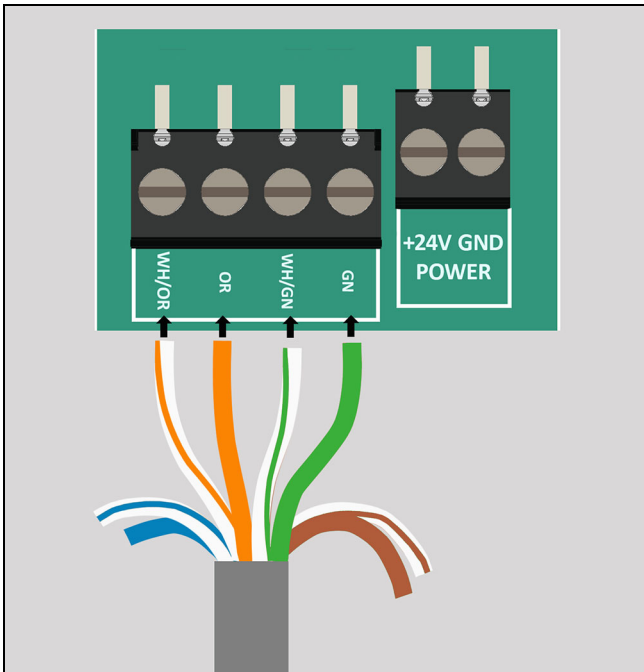

Figure 7
1. If connecting the windows to Ethernet or WiFi, network security settings may prevent connection to the Marvin cloud. Under higher security settings port 8883 may be blocked and would prevent the connection so router settings would need to change to allow the connection. Due to space constraints, the controller must be wired to Ethernet by stripping 2 of the pairs in the Ethernet cable and terminating them under the screw terminals. Assuming the network follows the T568B standard, wire the white/orange, orange, white/green and green wires to each of the 4 terminals from left to right as labeled on the control board as well as the associated label. This will result in 10/100 Ethernet so ensure the network switch is capable of those speeds. See Figure 7.